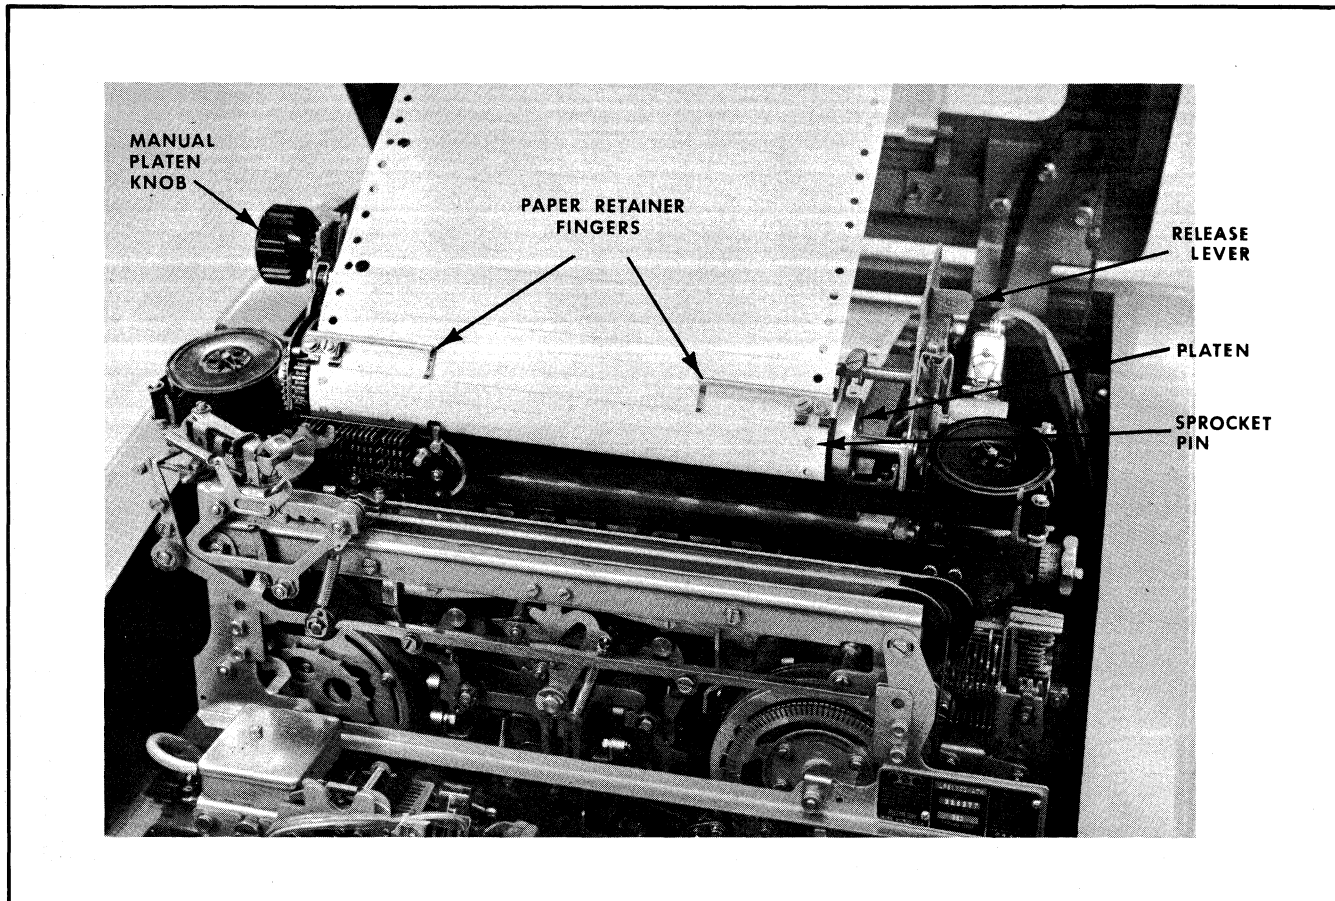

Figure 16. Loading Paper
3. Feed the paper through the slot in the rear of the cover. (Reference Figure 16.)